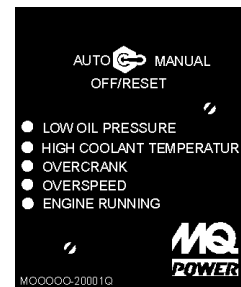

Figure 65. Engine Running LED (ON)
25. Verify that the **“Engine Running”** status LED on the MPEC unit (Figure 65) is **“ON”** (lit) after the engine has been started.